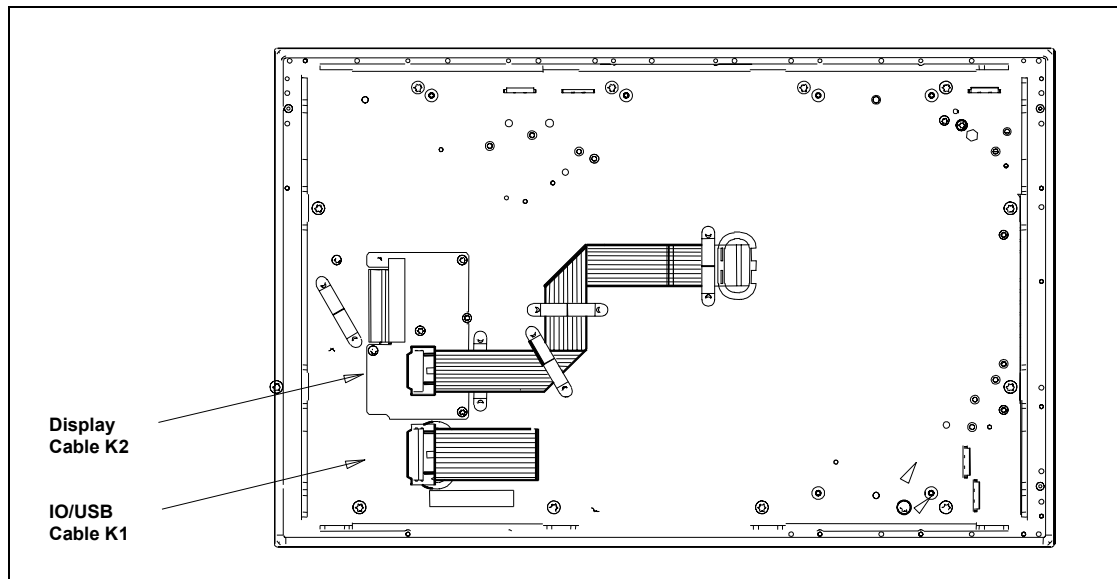

Figure 2–3 Operating unit interfaces
On the rear side of the operating unit (refer to Figure 2–3) are two flatband cables for connection to the computer unit:
- The I/O USB cable K1 on X1 for all signals which is responsible for the connection of operating units in addition to the display interface. This cable is depicted in Figure 2–3 folded together and is approx. 20 mm longer than illustrated.